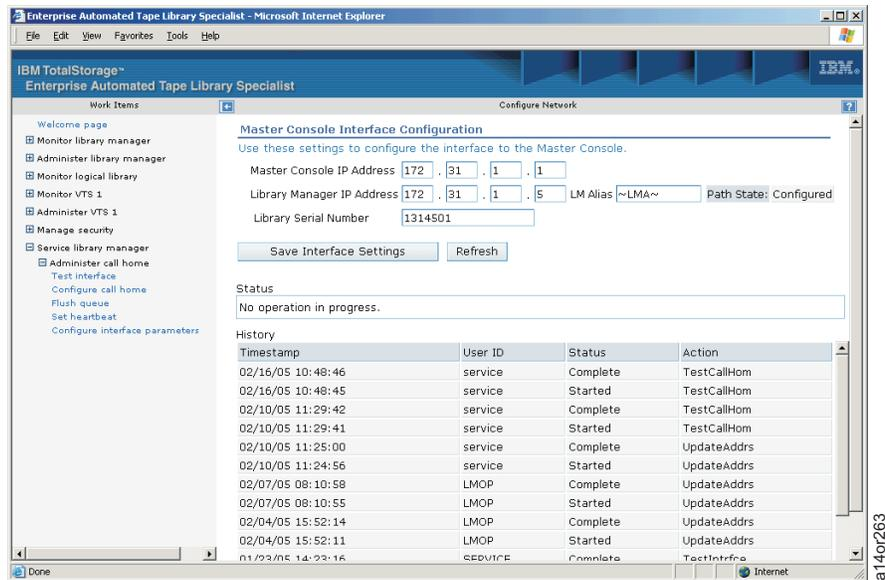

Figure 53. 3494 ATL Web Specialist - Configure Interface Parameters
- From the “Administer call home” list on the Web Specialist screen (Figure 48 on page 38), click **Configure Interface Parameters** to see Figure 53 on page 42. If you are prompted for a userid and password, use the default values of **service** for the userid and **service** for the password. These values can be changed by the 3494 ATL system administrator.